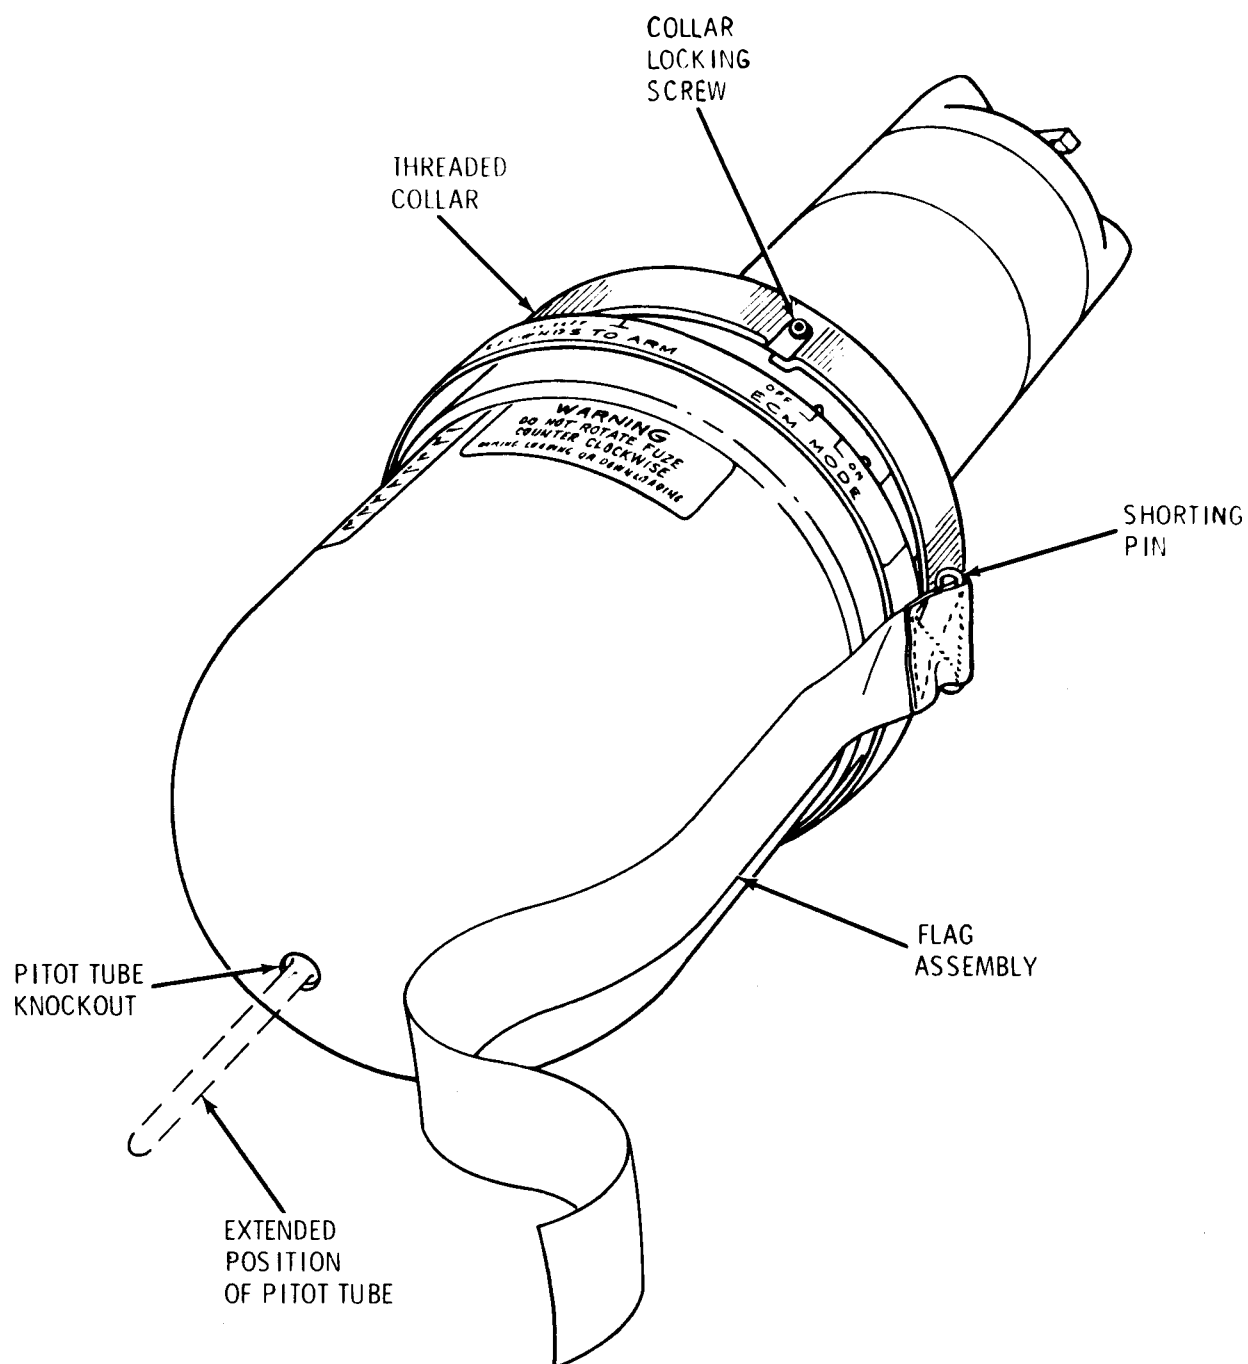

Figure 2-47. FMU-56 A/B, Front View
- 2-78. Type: Proximity Fuze FMU 56A/B (reference figures 2-47 and 2-48)